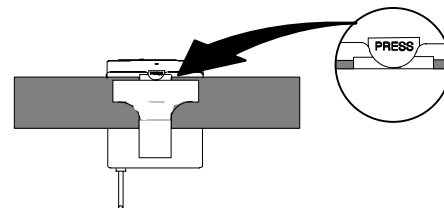

FIGURE 6. TRANSMITTER SETUP
1. Attach the transmitter to your belt, guitar strap, or waistband as shown in Figure 6. Depress the tab marked PRESS and slip the belt or strap between the transmitter body and the belt clip. For added stability, draw the strap or belt toward the clip's top wire, especially when using thin guitar straps.